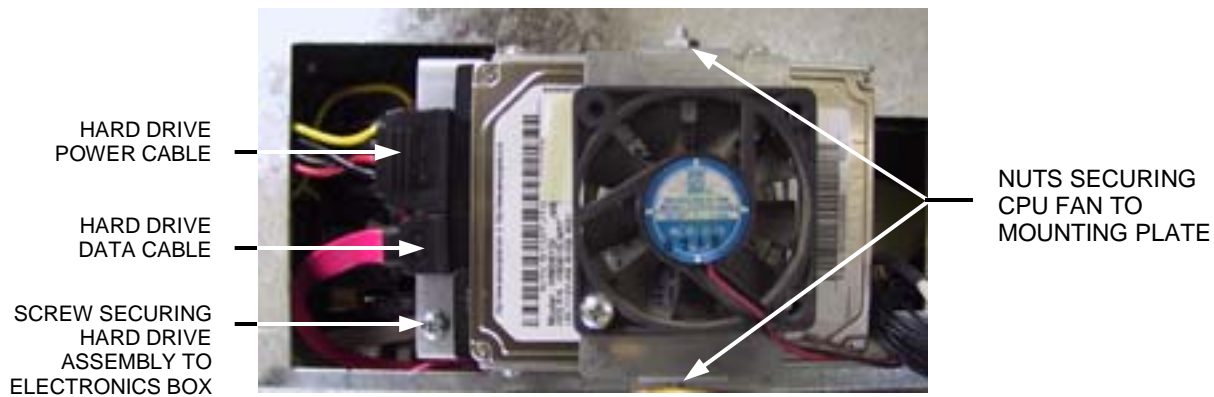

FIGURE 6 - SATA HARD DRIVE ASSEMBLY ON ELECTRONICS BOX
4. Disconnect the hard drive data and power cables from the hard drive (see Figure 6).
5. Remove the screw securing the hard drive mounting bracket to the electronics box (see Figure 6). This screw will not be reused. Slide the hard drive assembly off the electronics box cover.
6. Separate the CPU fan mounting plate from the hard drive mounting bracket by removing the 2 nuts (see Figure 6).
1. Reattach the CPU fan mounting plate to the supplied hard drive assembly with the 2 existing nuts (see Figure 6).
2. Slide the hard drive assembly onto the electronics box cover and screw it into place to secure it (see Figure 6).
3. Attach the hard drive data and power cables (see Figure 6).